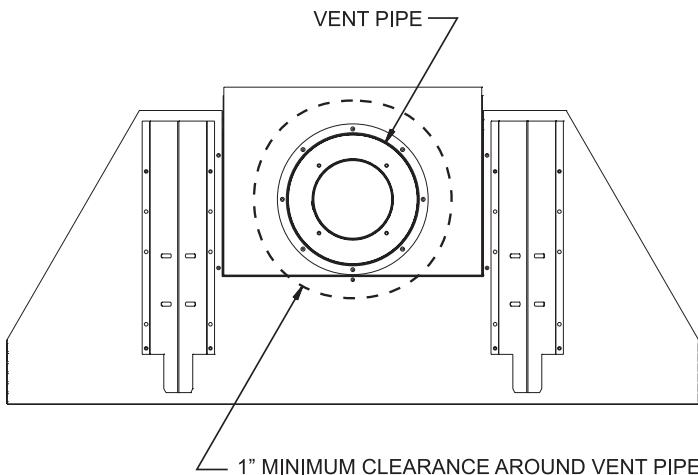
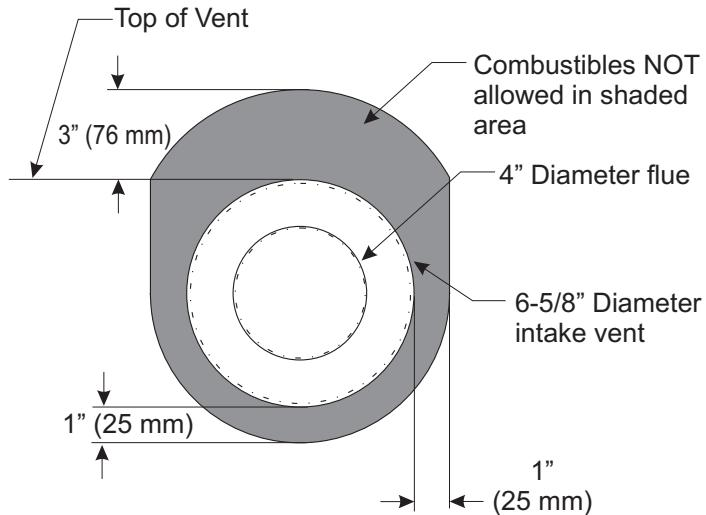

Figure 22
Figure 23 - Hard Pipe Vent Clearance
**NOTICE:** Maintain one inch of clearance to combustibles around vertical vent pipe. **See Figure 22.** For horizontal vent systems, maintain a minimum 1-inch clearance from the bottom and sides of the vent to combustibles and a 3-inch clearance above the vent pipe above the vent pipe to combustibles. **See Figures 23 and 24.**